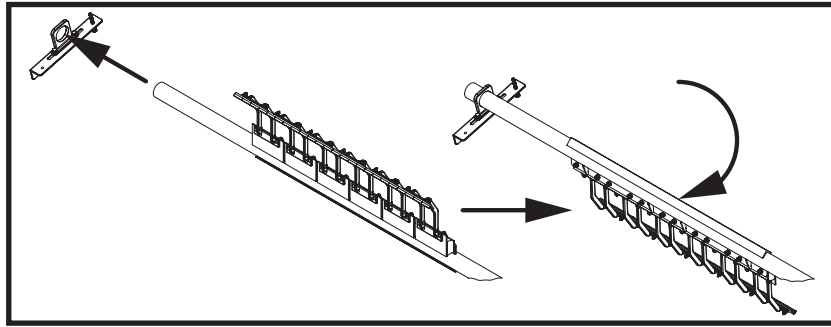

Figure 6. Martin® H1 Primary Belt Cleaner HD Mainframe Installation
- Slide the mainframe into position or through the chute, if present, allowing the tips to hang down. (Refer to Figure 6.) Install pivots onto mounts but do not tighten.